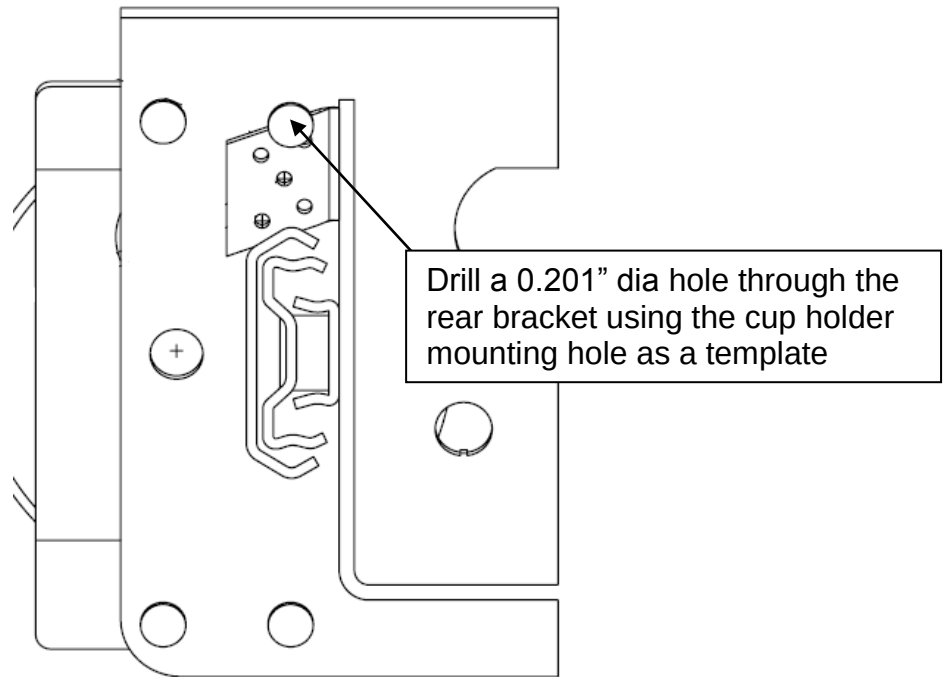

Figure 7: Cup Holder Mounting Hole Location
9. Using the cup holder mounting hole as a template, drill a 0.201" diameter hole through the rear bracket that is covering the original cup holder mounting hole. See Figure 7.